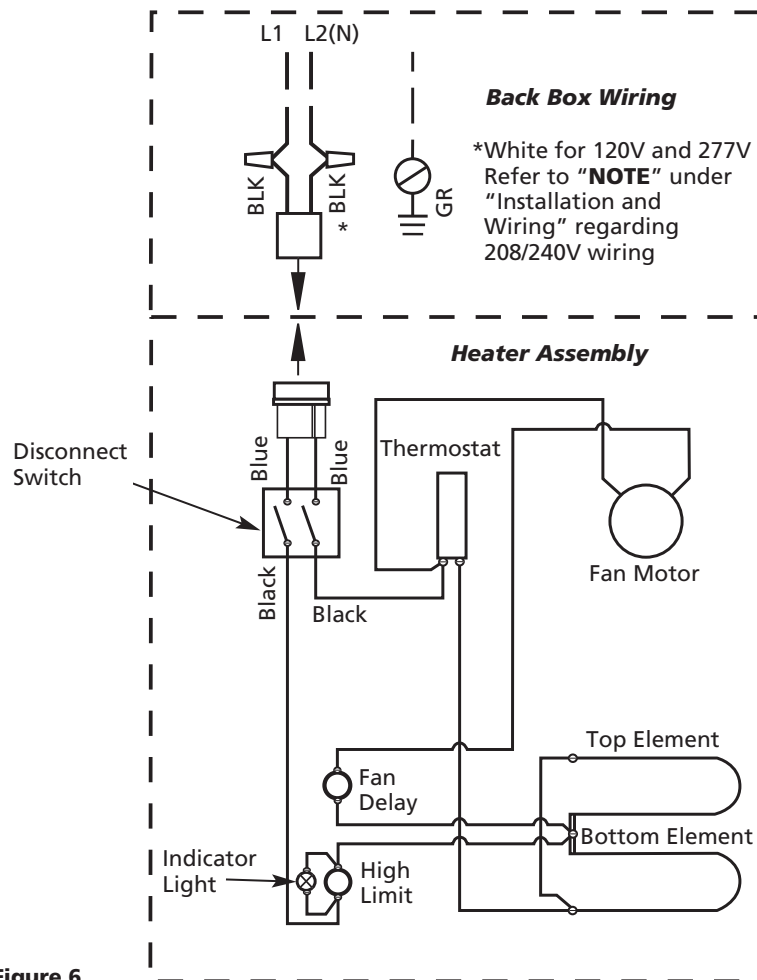

Figure 6
1. Following wiring diagram (Figure 6) connect supply wiring to heater lead wires in back box.